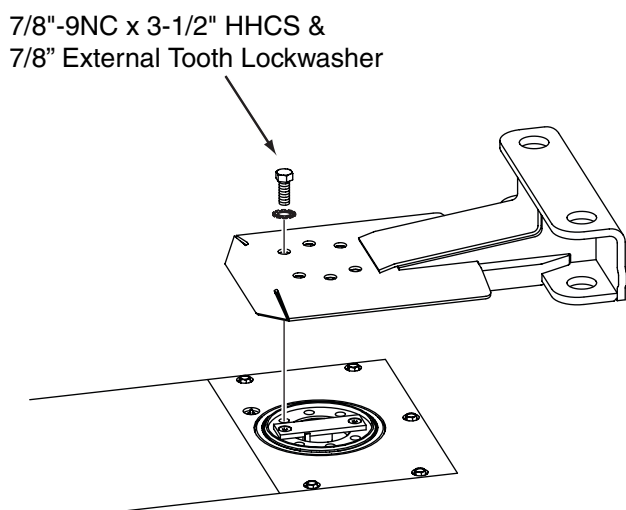

Fig. 21
### 17. Setting Cover; refer to Fig. 21:
- 1. Install yokes to plungers with 7/8"-9NC x 3-1/2" HHCS and 7/8" external tooth lockwasher. Torque to 150 ft-lbs., Fig. 21.